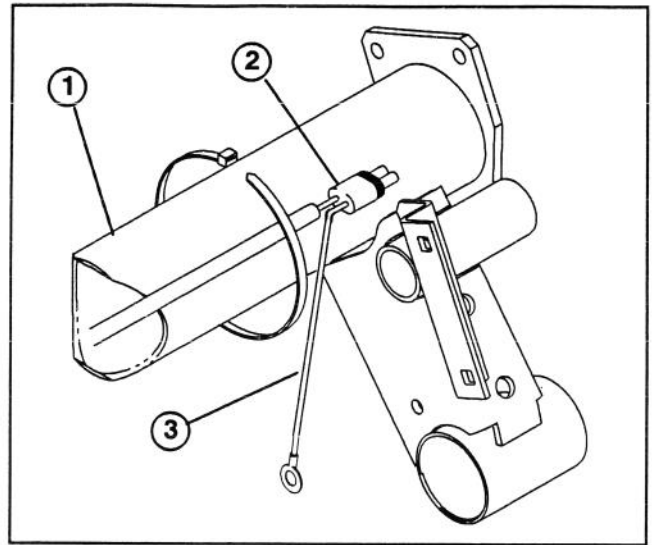

Figure 4
21. Route wire harness through opening in vehicle floor board and to rear of vehicle following the accelerator cable. Secure wire harness to accelerator cable with (3) cable ties.
22. Secure wire harness to jackshaft support tube with a cable tie (Fig. 4).